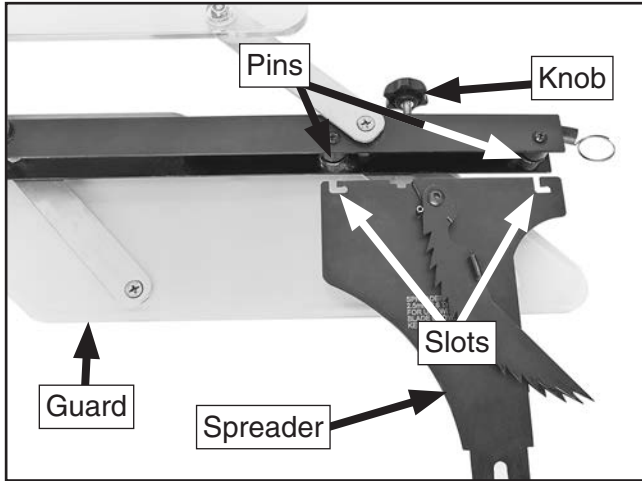

Figure 45. Assembling blade guard and spreader.
- Loosen top knob on blade guard, slide pins on guard into spreader slots, move guard back, then tighten top knob (see **Figure 45**).